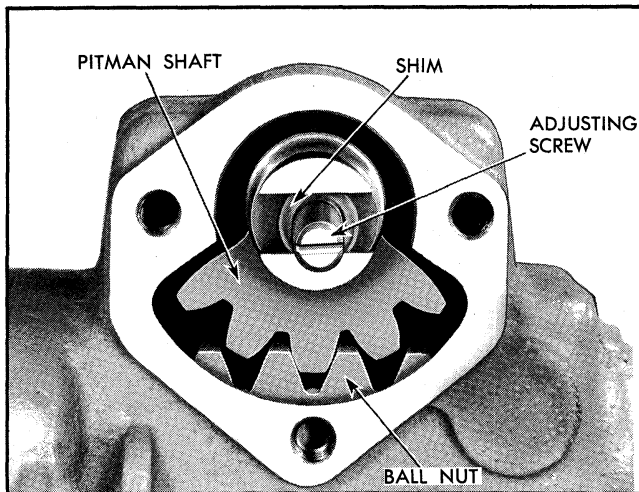

Fig. 9-28 Positioning Pitman Shaft and Ball Nut
8. Install pitman shaft and adjusting screw with sector and ball nut teeth positioned as shown in Fig. 9-28.